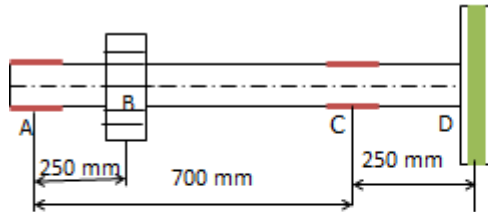

Figure Q3
- 2A) Bending stress in a machine part fluctuates between tensile stress of 280 MPa and compressive stress of 140 MPa. What should be the minimum ultimate strength to carry this fluctuation indefinitely according to a) Goodman's formula b) Soderberg's formula. The factor of safety can be taken as 1.75. Assume that the yield point is never likely to be less than 55% of ultimate tensile strength. (06)
- 2B) Determine the size of two contacting cylindrical rollers, 150 mm long, required to transmit a load of 50 kN, if the maximum contact stress is limited to 10 N/mm2. (04)
- 2C) A cold drawn steel rod of circular cross section is subjected to variable bending moment of 500 kN-mm to 1 MN-mm, as the axial load varies from 4500 N to 13500 N. The maximum bending moment occurs at the same instant that the axial load is maximum. Find the diameter of the rod assuming a factor of safety 2. Neglect stress concentration. Take  $\sigma_u = 560 \text{ N/mm}^2$ ;  $\sigma_{yp} = 476 \text{ N/mm}^2$ ;  $\sigma_{en} = 280 \text{ N/mm}^2$ . Consider factors A, B and C. (10)
- 3) A machine shaft shown in figure Q3 running at 600 RPM is supported on bearings, 700 mm apart. 20 kW power is supplied to the shaft through a 500 mm diameter pulley located at 250 mm to the right of the right bearing. The power is transmitted from the shaft through a spur gear of 200 mm diameter, which is located at 250 mm to the right of the left bearing. The belt drive is at an angle of  $60^\circ$  to the horizontal. The pulley weighs 700 N. The ratio of belt tension is 2.5. The gear has a pressure angle of  $14.5^\circ$  involute teeth and meshes with another spur gear located directly above the shaft. Determine the shaft diameter, assuming the permissible shear stress as 45 MPa.